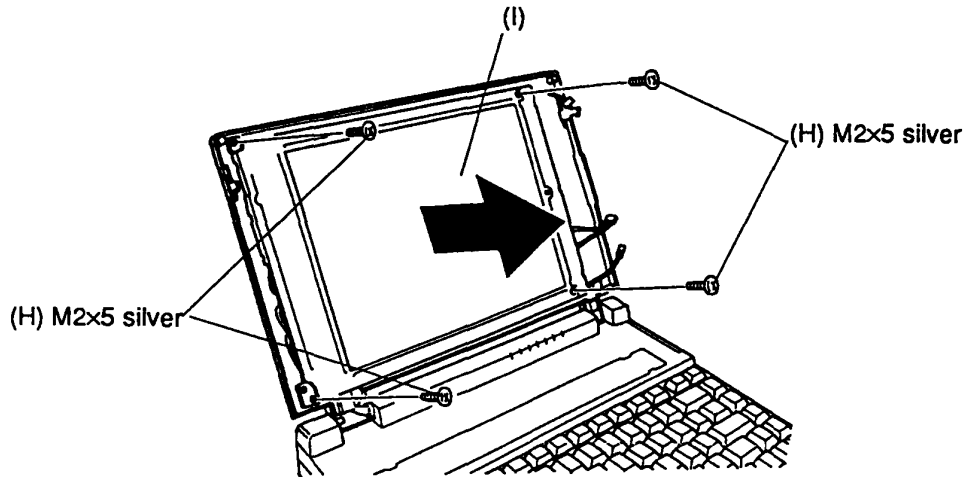

Figure 4-38 Removing the LCD from the back panel cover
5. Remove the four (M2x5 silver) screws (H) securing the LCD module (I) to the LCD cover (Figure 4-38).
4. Install the four (M2x5 silver) screws to secure the LCD module to the LCD cover (Figure 4-38).